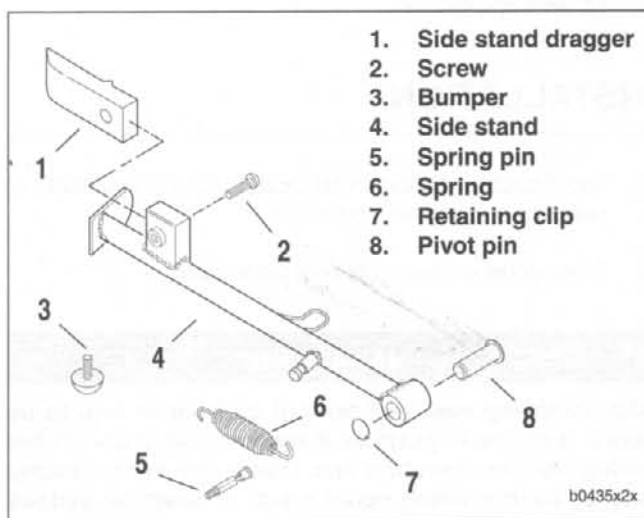

Figure 2-176. Side Stand
2. See Figure 2-176. Remove spring (6) from side stand and spring pin (5).
3. Remove retaining clip (7) and pivot pin (8). Detach side stand from frame.
4. Remove bumper (3) from frame.
5. Remove screw (2) and side stand dragger (1).
1. See Figure 2-176. Attach bumper (3) to frame.
2. Attach side stand dragger (1) to side stand with screw (2).
3. Apply LOCTITE ANTI-SEIZE to pivot pin (8). Install side stand using pivot pin (8) and retaining clip (7). Do not crush side stand switch during installation.
4. Connect spring (6) to side stand and spring pin (5).